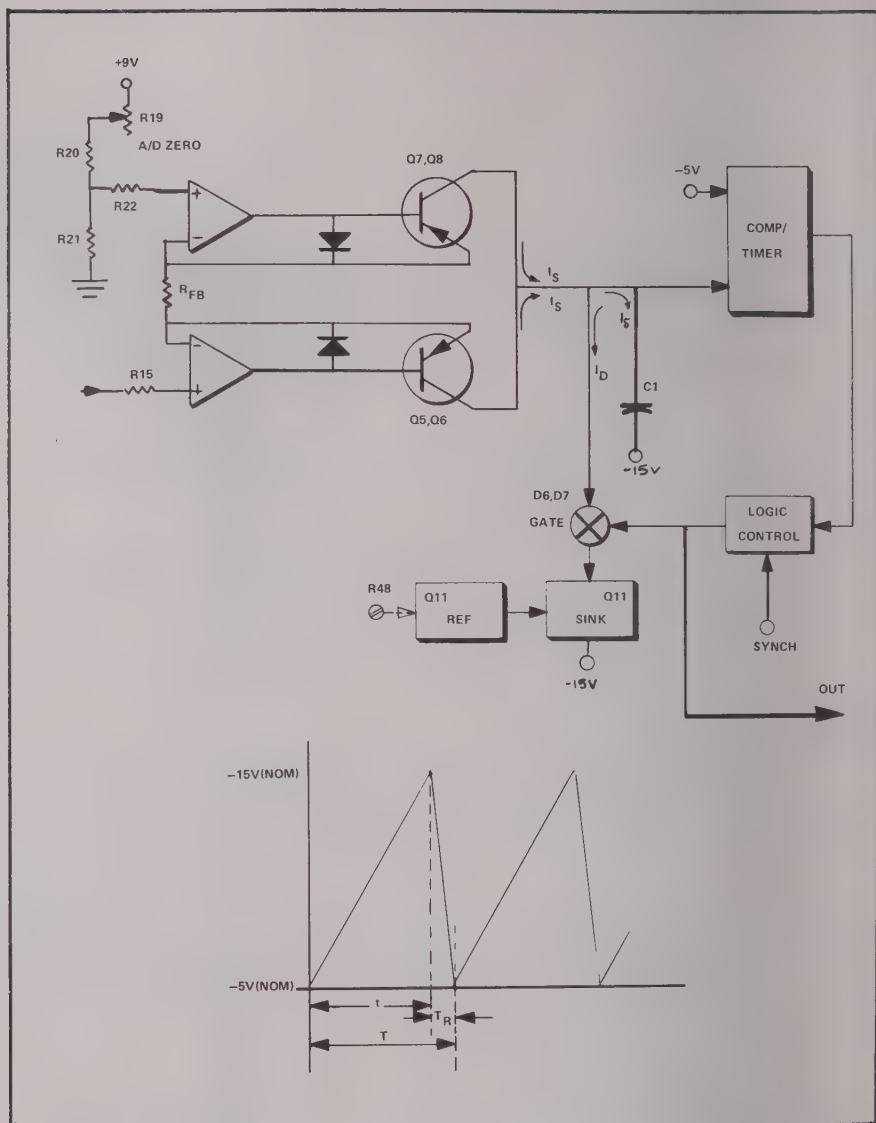

Figure 3-3. Absolute Voltage-to-Frequency Conversion Simplified Block Schematic
Figure 3-3 is a simplified block/schematic of the circuitry that generates a uni-directional current proportional to the magnitude of the input voltage (after the Buffer/Amplifier stage). The illustration also includes the block/schematics of the A/D circuit to convert this unidirectional current to a proportional output frequency.
- b) For positive inputs from the Buffer/Amplifier Diode D4 is forward biased, removing Q5 and Q6 from the circuit. The current which flows through the feedback resistor (which now has the same positive level as the input voltage at its junction with D4) passes through the Q7, Q8 transistor pair, and charges C1 as shown in figure 3-3.
- a) As shown in figure 3-3 and the complete schematic of figure 3-6, the uni-directional current I_S , charges C1 continuously throughout the measurement at a rate determined by the input signal. A discharge current, I_D , is switched in and out of the integrating capacitor circuit by the action of switching gate D6, D7, and this current is of sufficient magnitude to completely overcome the effect of signal current I_S , and to discharge the capacitor until it reaches its nominal level of 15 volts. The discharge current path I_D is switch into the circuit through the closing of gate D6, D7 when the charged capacitor reaches a voltage level of a nominal $-5V$, and it continues to discharge the capacitor for a fixed time interval, T_R determined by the time constant of R57C2 (figure 3-6).
- b) As shown in the waveform schematic included in figure 3-3, the sequence of actions for a particular input signal current I_S established a repetitive pattern in the following way.